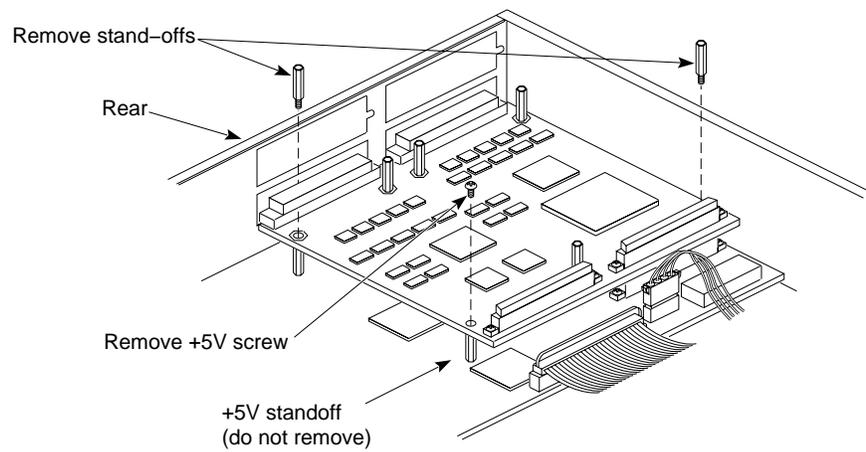

Figure 2-10 Removing the Screw and Standoffs From the IOPLUS Board
Caution: Do not attach the wrist strap to the +5VDC screw and standoff. Figure 2-10 shows the location of the screw and standoff.
1. Using the open-ended hex wrench provided in the upgrade kit, remove the standoffs from the IOPLUS board, as shown in Figure 2-10.
2. Use the Phillips screwdriver to remove the +5V screw, as shown in Figure 2-10.